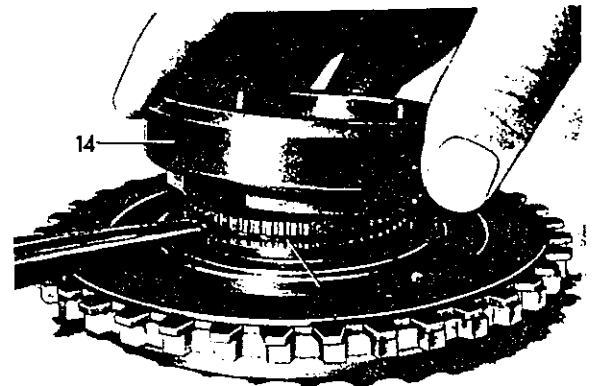

Fig. 11
14 Compress circlip (15) with pointed pliers and lift roller clutch outer race (14) from supporting flange K 2 (Fig. 11).
- 22** Insert roller clutch outer race (14) into supporting flange and lock with circlip (15) watching out for correct seat of circlip (Fig. 11).